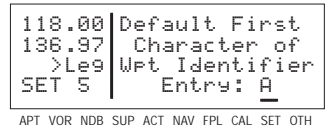
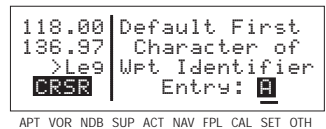

Figure 3-42
Figure 3-43
- Select the SET 5 page (figure 3-42) and turn on the cursor (**CRSR**) (figure 3-43).